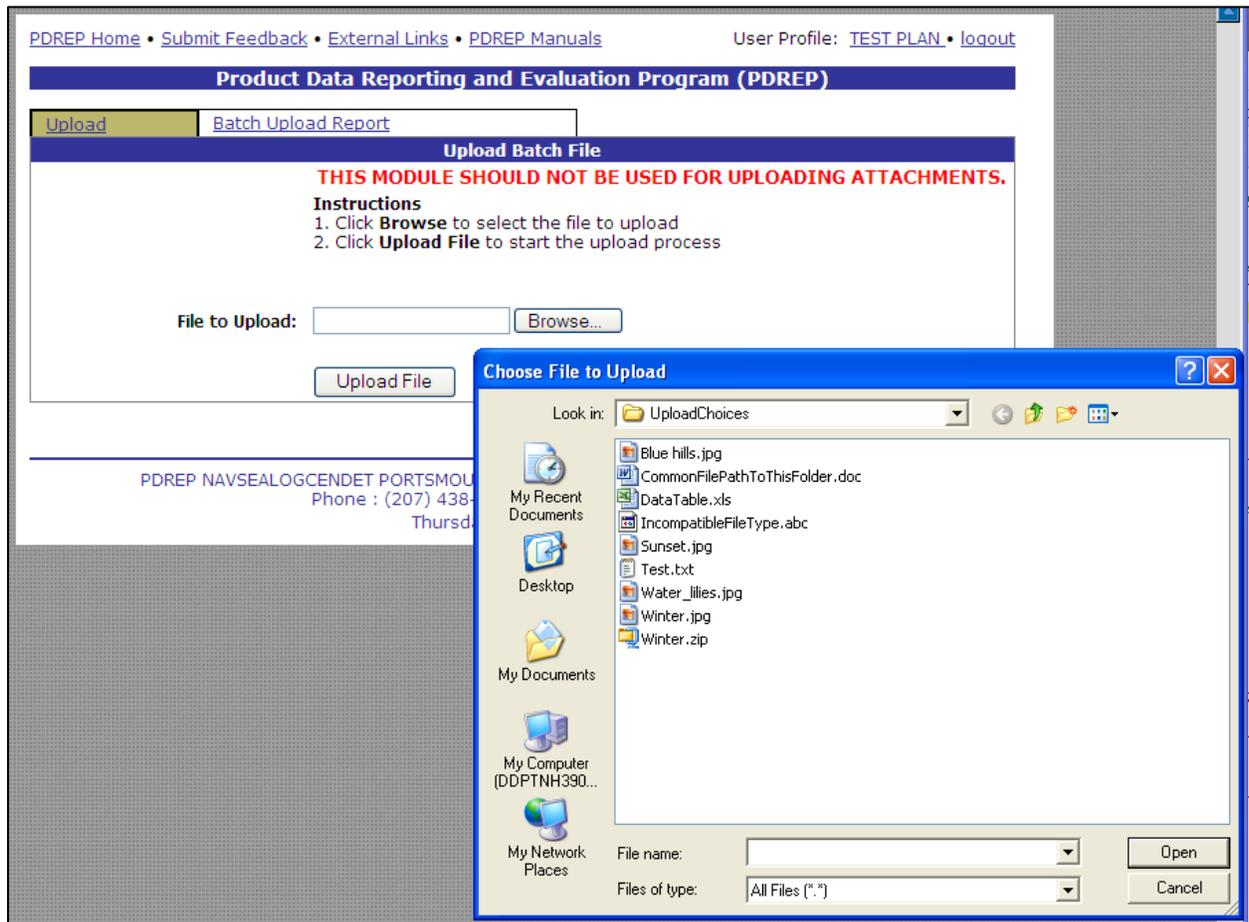

Figure 1.3
- c. Select the **Browse** button to locate the file to be uploaded into PDREP from the user's computer as displayed below (Figure 1.3).